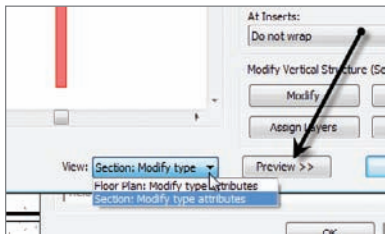

FIGURE 16.2 Changing the view to a section
12. At the bottom of the Edit Assembly dialog is a Preview button. Click it (see Figure 16.2).